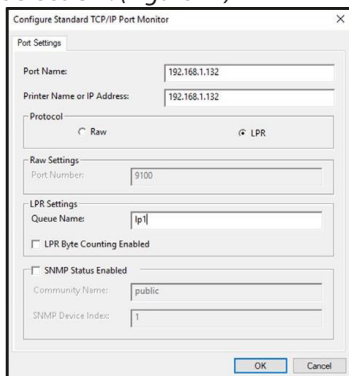

Figure 17
8. On the **Configure Standard TCP/IP Port Monitor** screen, under the **LPR Settings** field, enter **lp1** into the **Queue Name** field. Select **OK**. (Figure 17)